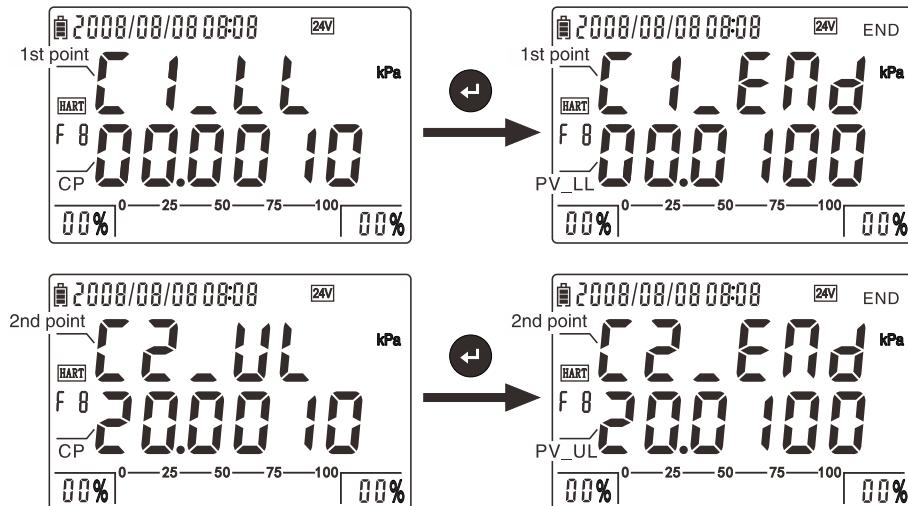

Figure 4-5-8-2: PV calibration process
- c. After calibration, press to the interface as figure 4-5-8-1, press to function 9.